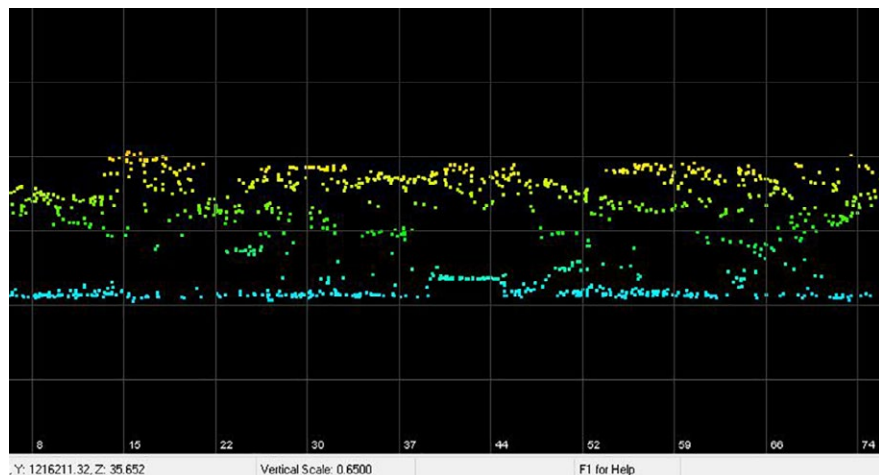

Figure 7: Profile view showing the elevated boardwalk under dense vegetation.
Three elements were to be mapped: (1) the mean high water level (0.35’ NAVD88; not shown), (2) the safe upland line (SUL), i.e. a line at or above the mean or ordinary high water line used to calculate the acreage of land (0.85’ NAVD88; blue line in **Figure 6**), and (3) a boardwalk and deck, which was in a state of disrepair (**Figure 7**). Further complicating the survey, the Cockroach Bay parcel in question was heavily overgrown with black mangrove
trees and other vegetation, making conventional survey reconnaissance difficult (**Figure 7**).